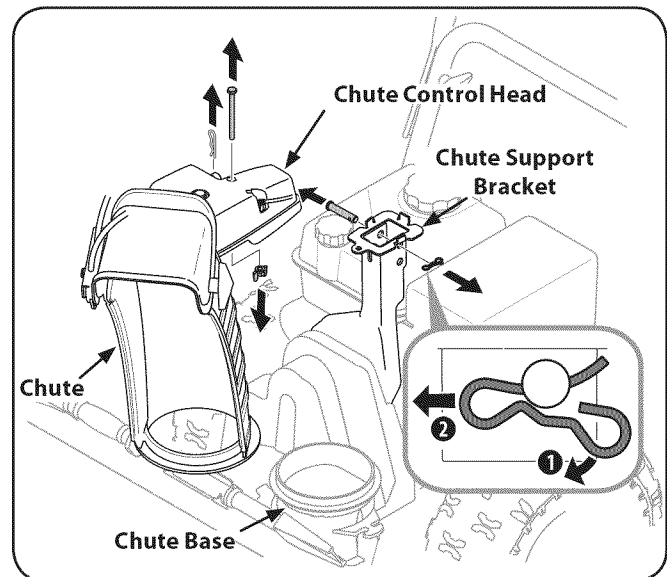

Figure 3-2
1. Remove cotter pin, wing nut and hex screw from chute control head and clevis pin and bow-tie cotter pin from chute support bracket. See Fig. 3-2.
- Finish securing chute control head to chute support bracket with wing nut, clevis pin, and bow-tie cotter pin removed in step 1. See Fig. 3-2.